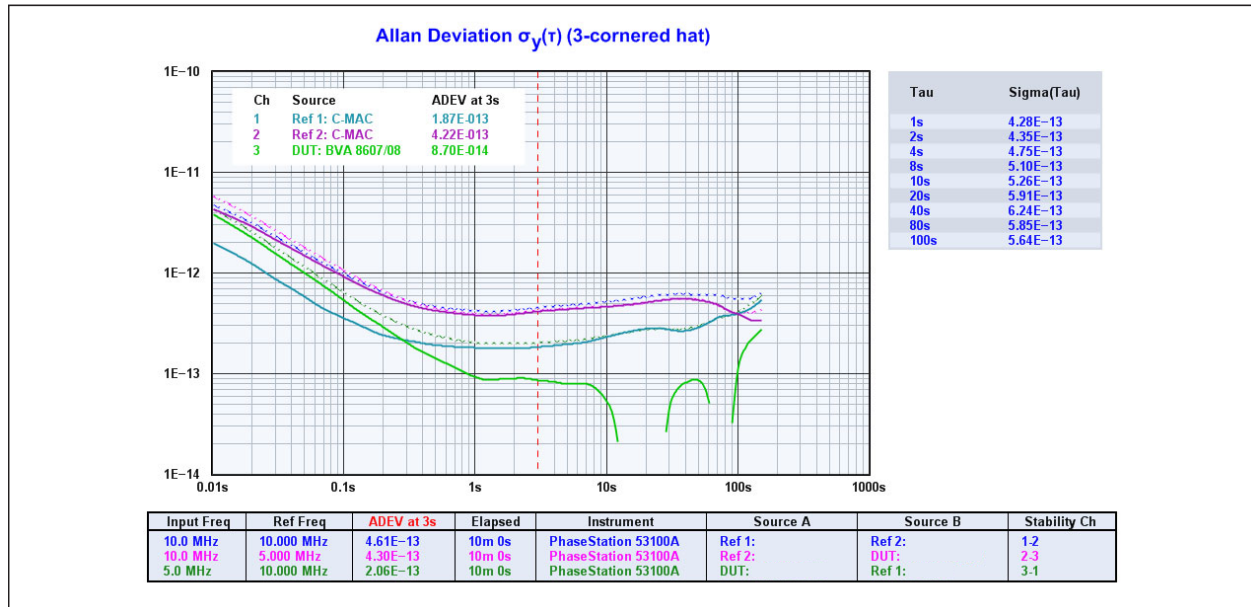

FIGURE 5: Separated xDEV Variances (N-Cornered Hat) Measurement View.
You can then toggle the three-cornered hat measurement view on and off by selecting *Trace>Show Separated xDEV Variances (N-Cornered Hat)* or by pressing <ctrl-h>. When the three-cornered hat view is enabled, the traces will be rendered using dashed lines. The solid traces that take their place will represent an estimate of the separate Allan deviation statistics for each individual channel, rather than the usual DUT-reference channel pairs. Figure 5 depicts the result obtained at the end of the 10-minute measurement conducted here.
- The broken traces visible in Figure 5 are the contributing ADEV traces that would be rendered with Trace>Show Separated xDEV Variances (N-Cornered Hat) <Ctrl-h> turned off. You can use Trace>Toggle Trace Thickness for Current Measurement <T> to make these traces less conspicuous in the three-cornered hat plot, or use Trace>Show Original Traces in N-Cornered Hat Display <F6> to toggle them on and off.
Looking back at Figure 5, the DUT's estimated Allan deviation at $t=3$ seconds is close to its specified value of $8E-14$. The observed estimate of $8.7E-14$ is within a reasonable margin of error for three-cornered hat traces in general, especially ones as short as these.